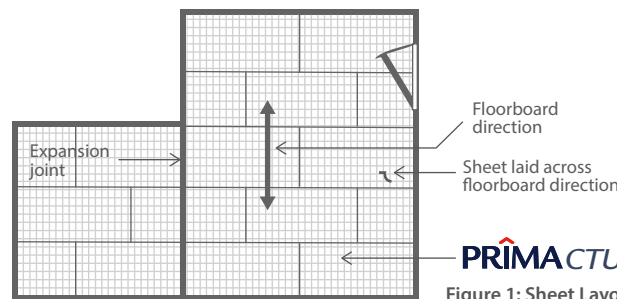

Figure 1: Sheet Layout
**PRIMA CTU** sheets should be laid in a staggered or brick pattern, across the direction of floorboards. Sheet joints must not coincide with floorboard joints as shown in Figure 1.